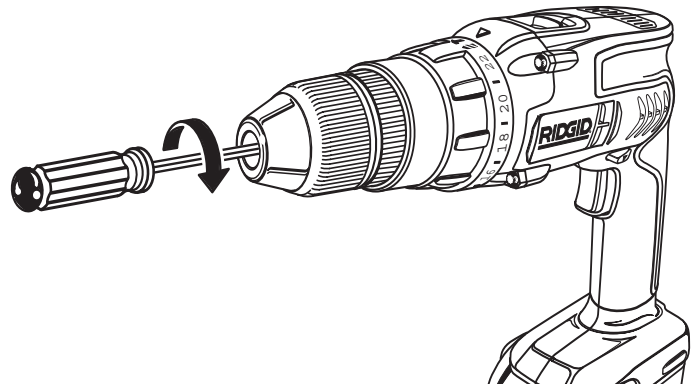

Fig. 18
- Open the chuck jaws and remove the hex key. Remove the chuck screw by turning it in a clockwise direction. See *Figure 18*.